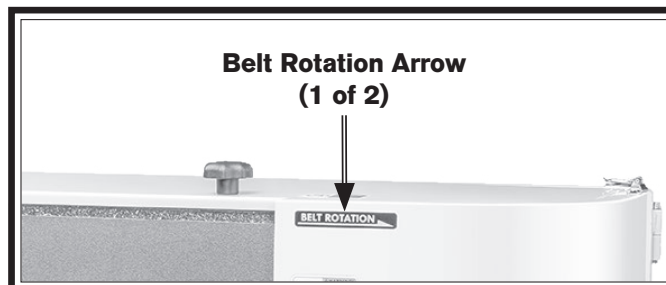

Figure 16. Belt rotation arrow.
6. Install and center sanding belt around rollers, being sure arrows on belt match arrows of belt rotation on machine (see **Figure 16**).